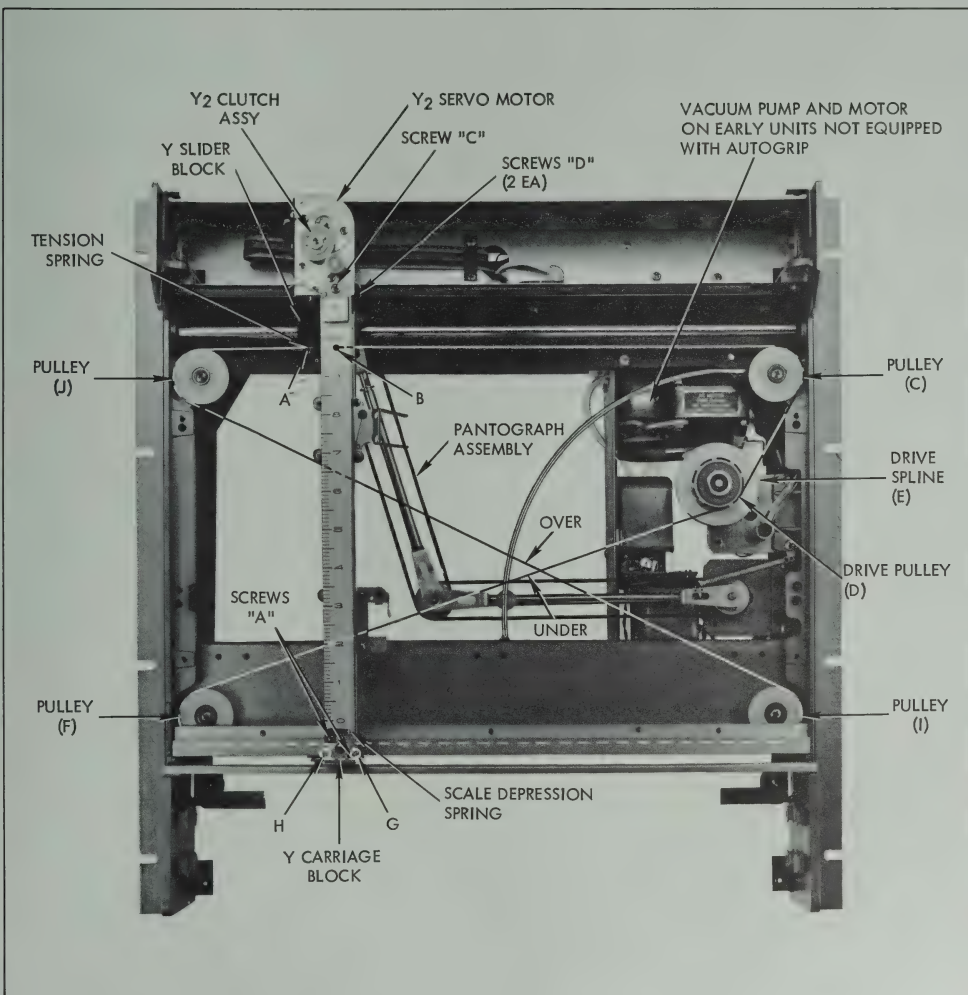

FIGURE 5-17. 2FRA WITHOUT PLATEN (FRONT VIEW)
- (1) Remove the platen, top trim strip, and rear cover.
- (2) Tape the X-axis drive cables to pulleys C and J (figure 5-17) to prevent loss of cabling during succeeding steps.
- (3) Using an Allen wrench, loosen the set screw fastening the Y-slider bar in place. This screw is located just above Idler Pulley J.
- (4) Move the Y-slider bar out the right side of the recorder sufficiently to allow removal of the X-axis wiper.
- (5) Install the new wiper, leaving mounting screws slightly loose.
- (6) Re-install the slider bar, carefully positioning the rollers on the track at the lower end of the carriage beam. Tighten set screw. The retaining tape may now be removed from the cabling.
- (7) Position the wiper assembly so that one wiper contacts the resistance wire mandrel and the other the solid return wire. Move slider bar assembly so that wiper mount aligns with access hole in rear frame. Insert a thin shaft Phillips screwdriver through this hole to tighten mounting screws.
- (8) Re-install the platen, trip strip, and cover.
(1) Remove pens from their respective mounting blocks.
(2) Remove top trim strip, fastened by two machine screws.
(3) Remove two machine screws "A" at the lower end of the pen carriage, figure 5-17. Remove the associated cover and scale depression spring "B".
(4) Lift off scale, being careful not to damage the Y₂ pen drop electromagnet which is still connected to the recorder.
(5) Remove machine screw "C" located just below the lower drive gear.
(6) Remove the two machine screws fastening the beam to the lower end of the mounting block.
(7) The Y₂ carriage beam may now be separated from the Y₁ beam but not removed from the recorder because of the balance potentiometer cable connections. Complete removal requires unsoldering of cable connections.
- c. Attach the prepared loop to the left arm of the tension spring, Point A, figure 5-17, and string cable CW to the right around pulley C to drive pulley D.